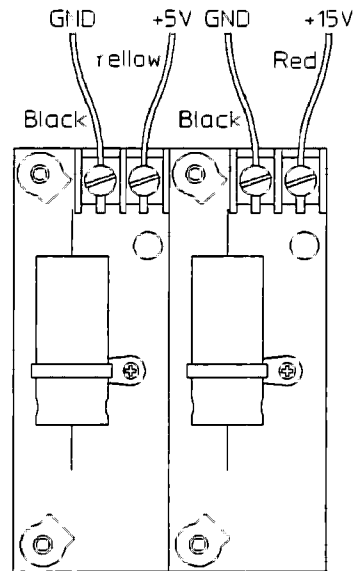

Figure 4-27. Power Supply Test Locations
5. Before replacing the probable faulty assembly, check the power supply's voltages to determine that the power supply is not causing the failure. The voltage at the screw connecting the yellow wire should be $+5\text{ V} \pm 0.25\text{ V}$ and the voltage at the screw connecting the red wire should be $+15\text{ V} \pm 0.75\text{ V}$ (see figure 4-27 for test locations).